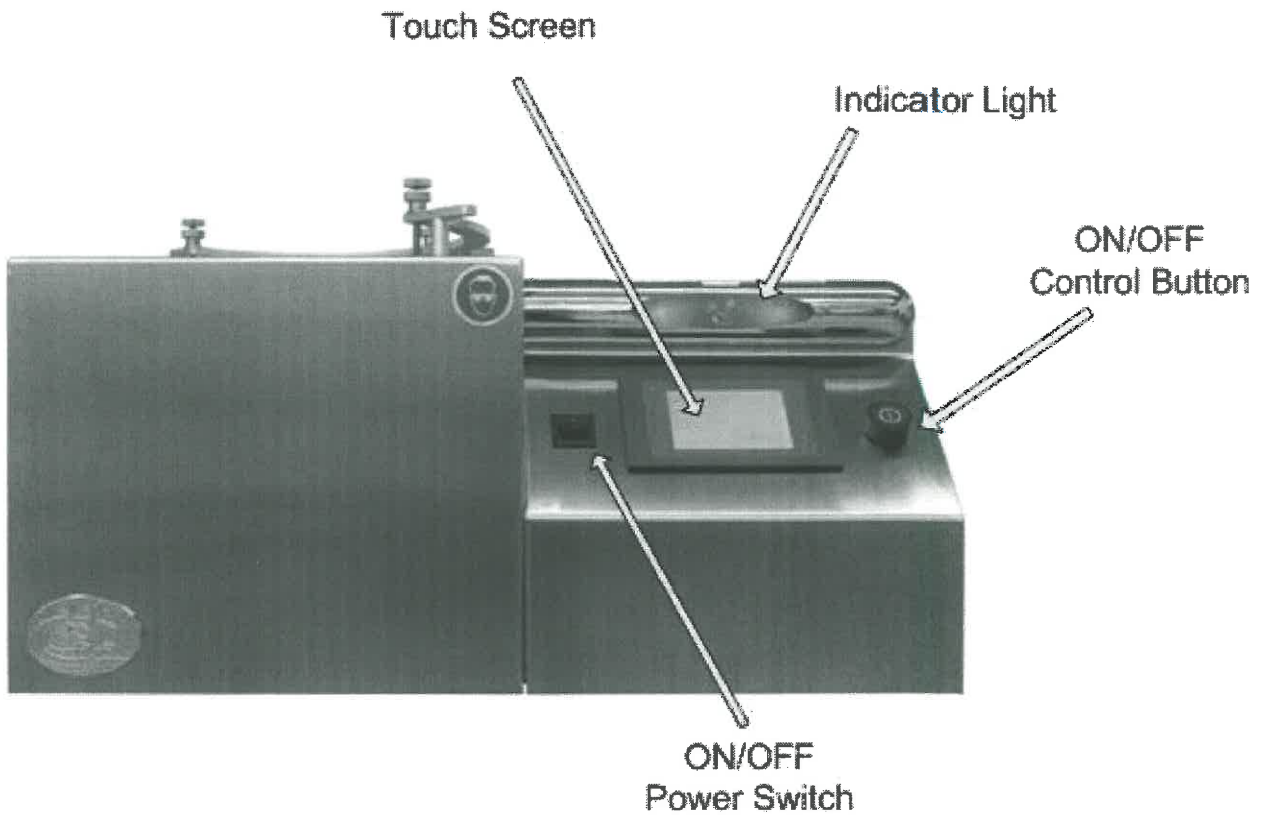

Figure 3 – Controls Locations
- Figure 3 – Controls Locations